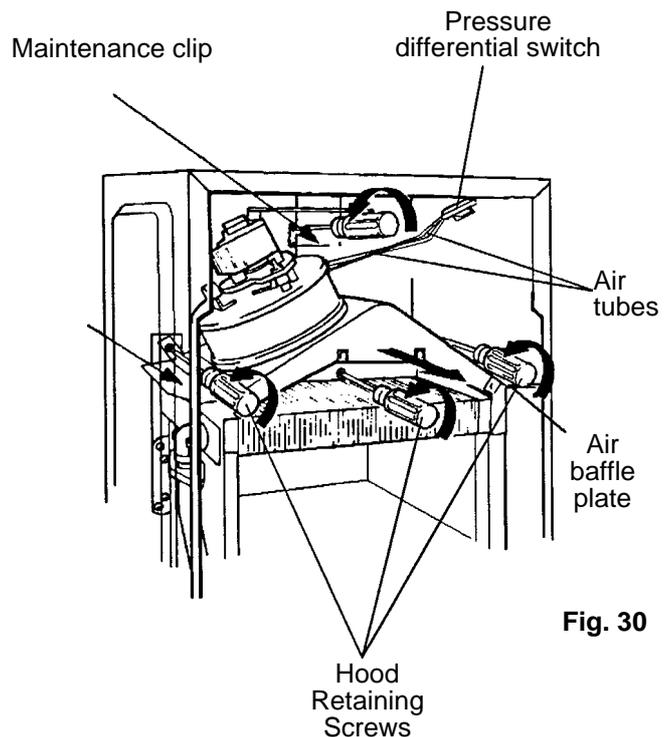

Fig. 30
- 8.8.4 Remove two air baffle plates, 1 screw securing each (fig. 30).
8.9.2 Loosen maintenance clip securing screws (see fig. 30) and slide upwards to clear joint.
8.9.4 Remove 5 flue hood retaining screws (see fig. 30).
Refer to Fig. 30